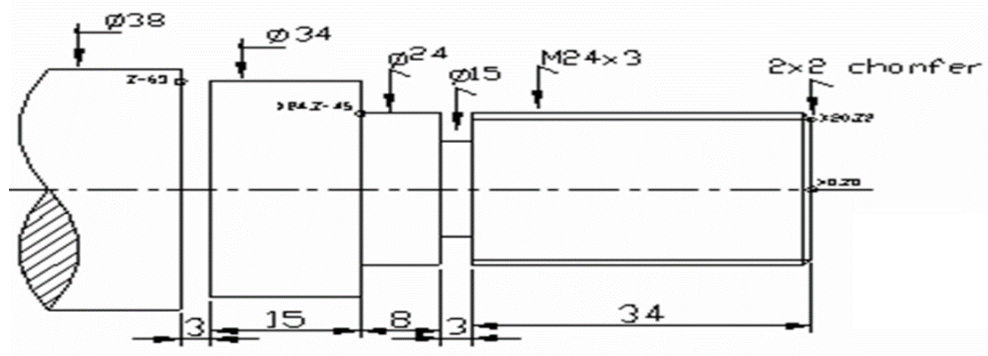

Fig. 4
- 5 a) Write manual part programming with comments for the turning model as shown in Fig. 4. Data for Thread M24x3, pitch 3mm, core 20.3194mm, depth 1.840mm. **12**